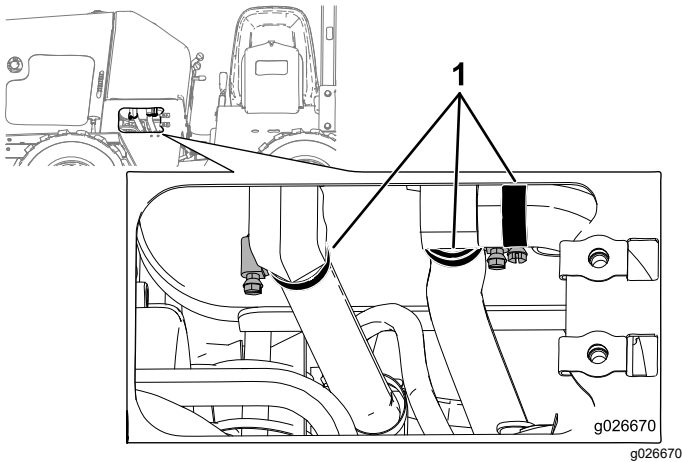

Figure 44
6. Remove the left side cover plate and loosen the 3 hose clamps under the hydraulic tank (Figure 44).